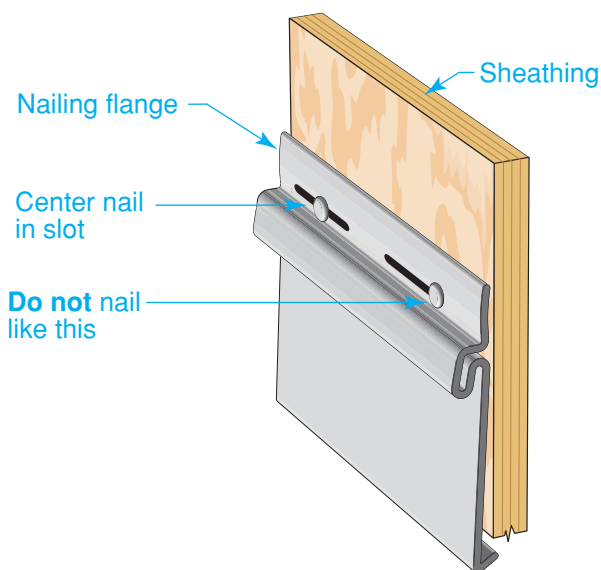

Figure 23-21 Nailing Details
- Always drive fasteners straight and level. This prevents the panel from distorting. Start in the center of the panel and work toward the ends. Nails should be centered in each slot, as shown in **Figure 23-21**. Steps for installing vinyl siding are given on page 677.